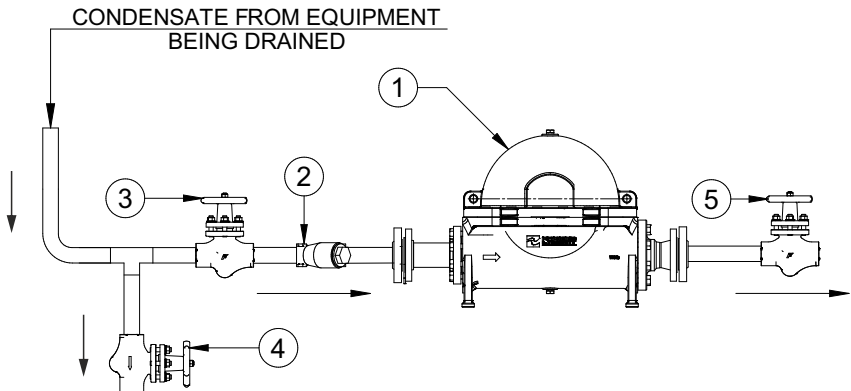

Figure3: Single Orifice Float trap module
3. Ensure the availability of all components as shown in Figure 3, to ensure the operation of the trap.
6.1 Flushing of Lines : (Refer to Figure 3)
6.2 Commissioning : (Refer to Figure 3)
9. Available Spares: (Refer to Figure 3)